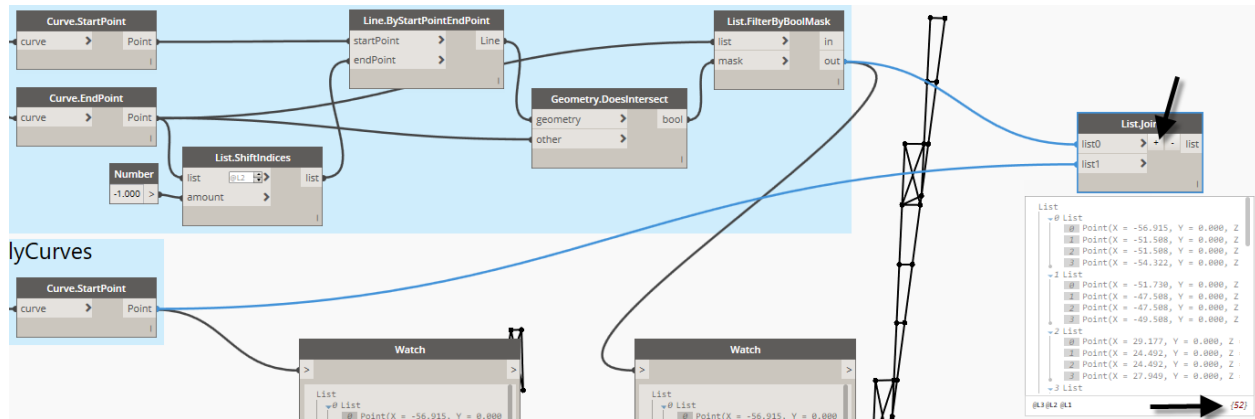

Figure 104
48. Wire the **out** port from the **BoolMask** in group 3 to the **list0** input and the **Point** output of **Curve.StartPoint** from group 4 into **list1** (see Figure 104).